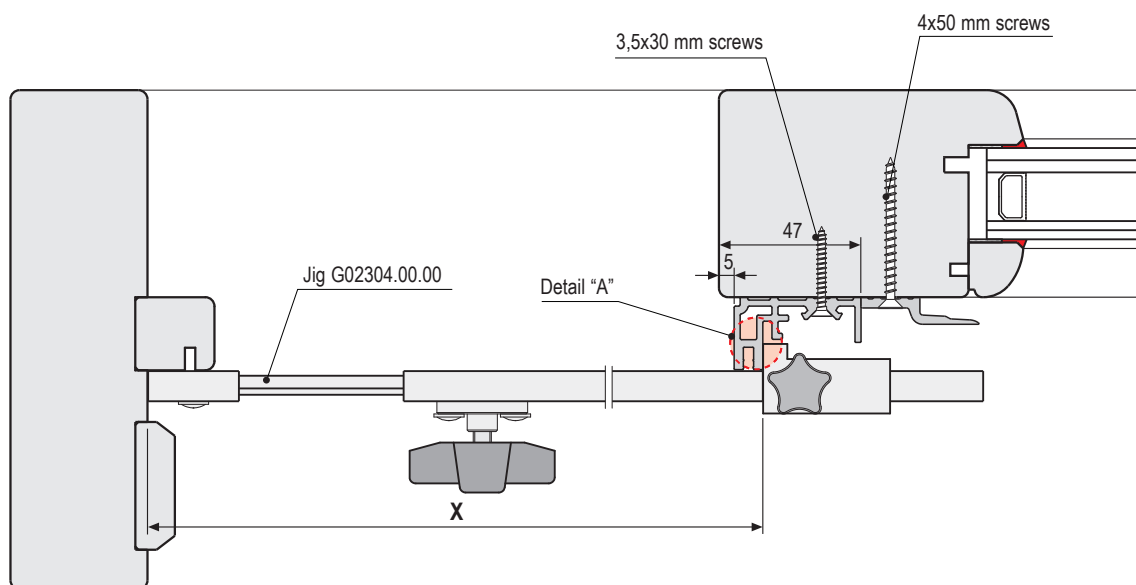

Fig. 1
- 2) Set the jig against the jamb and measure the X height, then block with the appropriate clamp (Fig. 1).